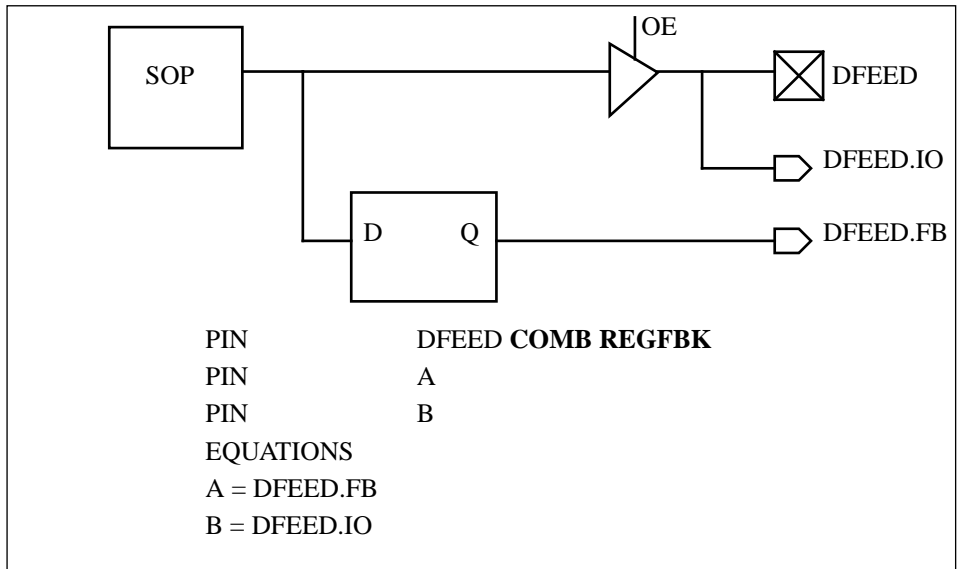

Figure 4-15 Combinatorial Output with Registered Feedback
- Figure 4-15 shows how PIN A takes on the value of the combinatorial feedback path of DFEED through a register, while PIN B takes the value of the pin feedback path of DFEED.